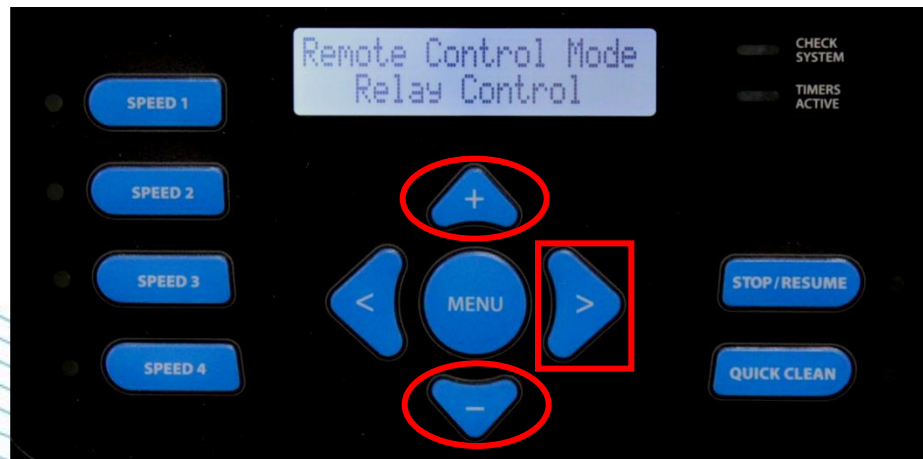

Figure 36
12. You will now see the Remote Control Mode screen. Use the  &  buttons to toggle between Stand Alone (default) or Relay Control (other controls including third party models) (fig 36 & 37). Press the  button to continue .